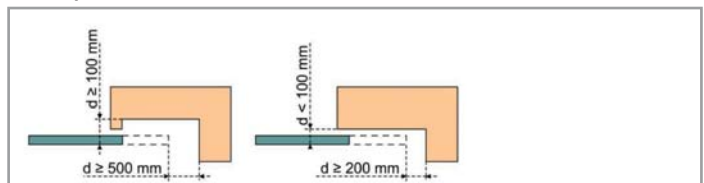

Figure 1 - Safety distances
<p>ZONE 3 Risk of crushing with an adjoining fixed section upon opening</p>	<p>Protection by safety edge(s). Obstacle detection must be confirmed as compliant with Appendix A of standard EN 12 453. Protection by means of safety distances (see figure 1).</p>
2.2. Composition of the kit - Fig. 1